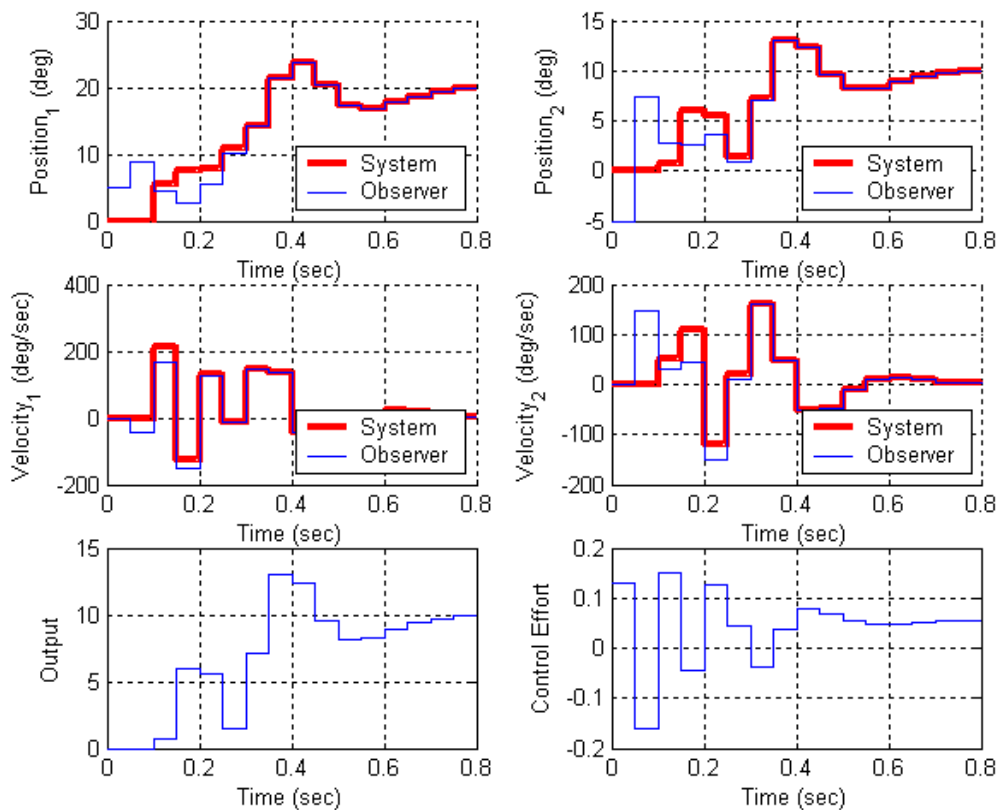

Figure 6: Results for problem 4b.
b) Place all the state feedback poles at 0.2, and the observer poles at 0.06 0.08 0.1 0.12 0.14. You will probably need to use the `place` command to place the observer poles here. Assume the position of the second disk is available to the observer and the system output is the position of the second disk. The estimated position of the first disk is assumed to be 5 degrees and the estimated position of the second disk is assumed to be -5 degrees. All other initial estimates are zero. The real system is starts at rest. The velocity and control inputs are assume to be zero. For a 10 degree step input you should get the graph shown in Figure 6. Turn in your plot.